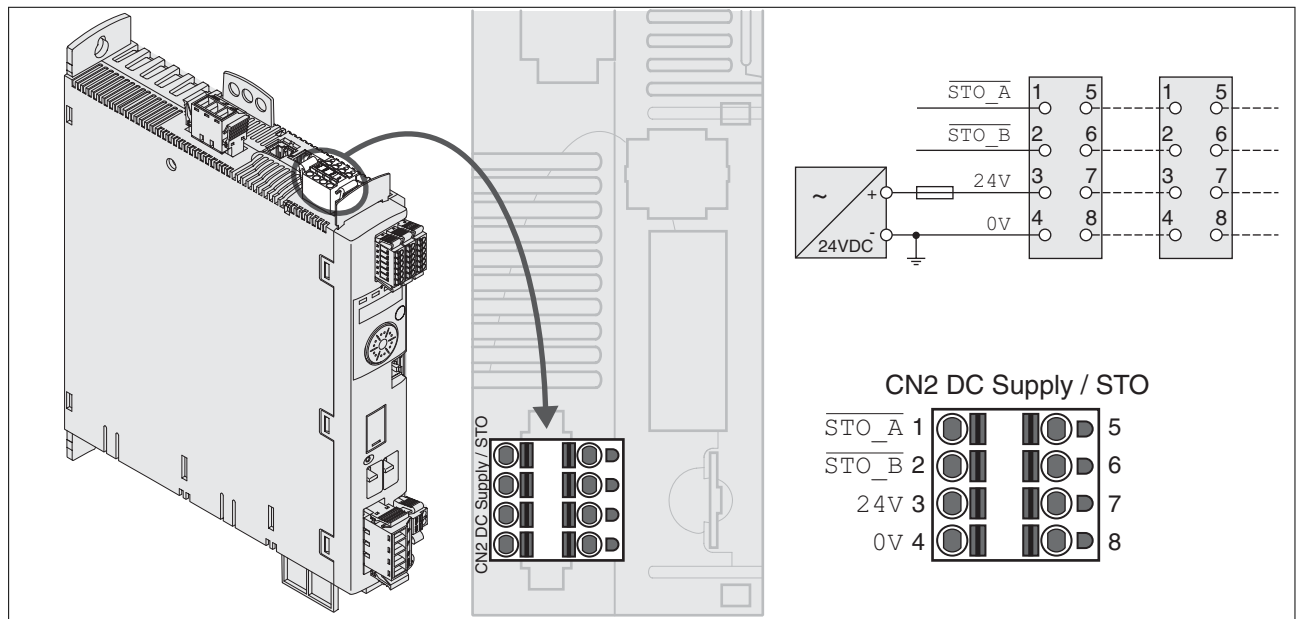

Figure 29: Wiring diagram controller supply
- Connection CN2, pins 3 and 7 as well as CN2, pins 4 and 8 (see Figure 29) can be used as 24V/0V connections for additional consumers. ² Note the maximum permissible terminal current ("Properties of spring terminal CN2").